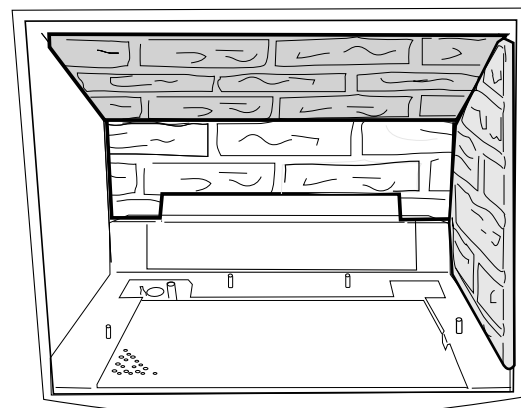

Figure 44 . Install the Upper and Side Panels.
5. Install one of the Side Panels, pushing it up against the firebox wall. Fig. 44.
6. Position the Upper Panel. You should seat the Upper Panel down and forward so that no gaps are evident at the panel joints, as in Fig. 44.